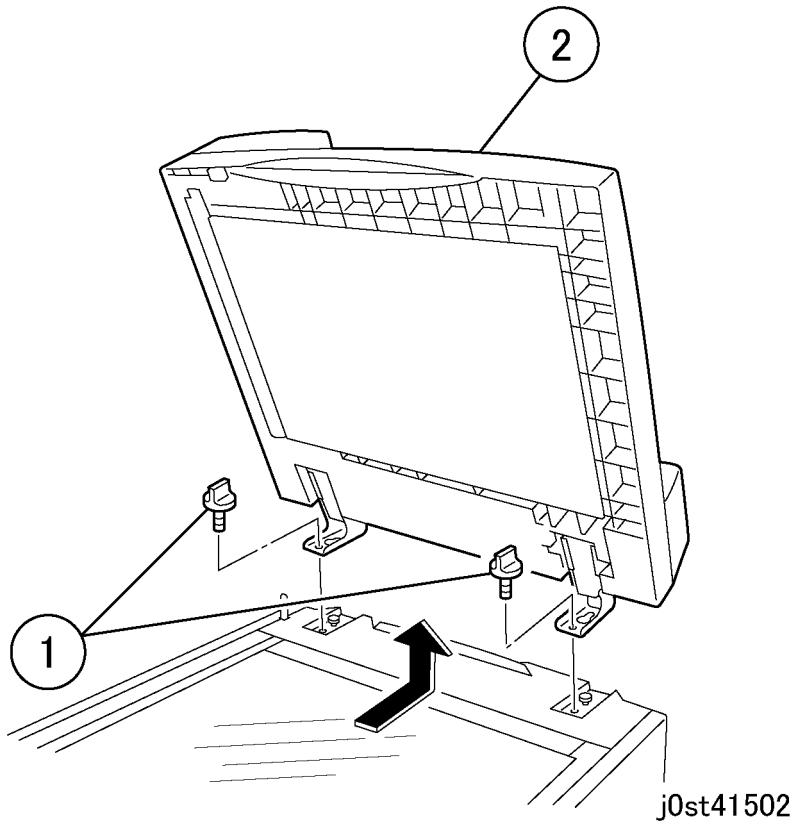

Figure 2 Removing the DADF
2. Remove the DADF. (Figure 2)